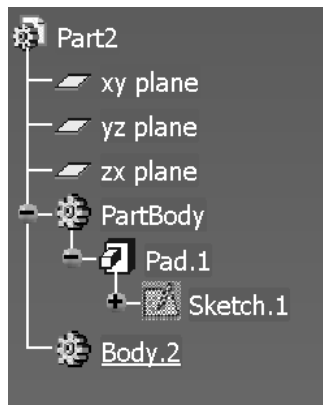

Figure 3.3
- 3.6 From the Insert window, select the Body option. This will insert a new body into the Specification Tree (Figure 3.3). The purpose of this step will be explained later.